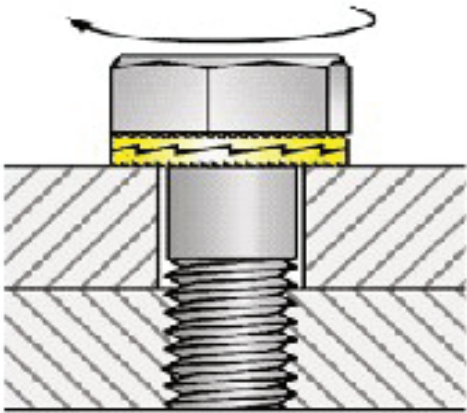

FIGURE 10-NORD-LOCK® STACKING
Ensure there are correctly stacked like the Figure 10.
- Tighten the screw (019) with Nord-Lock® washer to torque show on Table 1.
**Nota:** For the Nord-Lock® washers stacking, please refer to the Figure 10.
**Nota:** For the Nord-lock® washers stacking, please refer to the Figure 10.
- **Guide (009)**
- Slide the guide sleeve (008) in the guide (009). Do not grease!!
- Tighten the screw (037) with Nord-Lock® washer (037-1) to torque show on Table 1.
- Tighten the screw (018) with Nord Lock® washer (018-1) through the diaphragm washer (022), diaphragm (020), diaphragm support (021) and spindle gasket (042) on spindle (012) to torque show in Table 1.
**Nota:** For the Nord-Lock® washers stacking, please refer to the Figure 10
• Cap (004)
- Insert the gasket (041) into the cap groove.
- Tighten the screws (037) with Nord-Lock® washer (037-1) through the upper cover (002) on cap to torque shown on Table 1.
**Nota:** For the Nord-Lock® washer stacking, please refer to the Figure 10